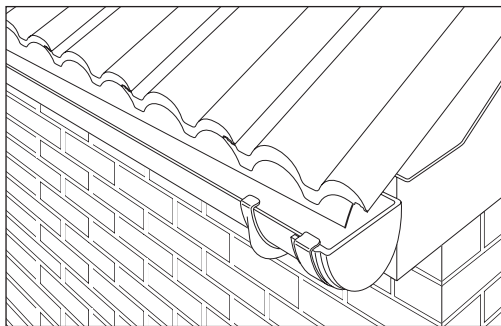

Fig 38 – Overhanging tiles ensuring water discharges into the gutter
- Tiles must overhang fascia board so that water discharges into centre of gutter (Fig 38).